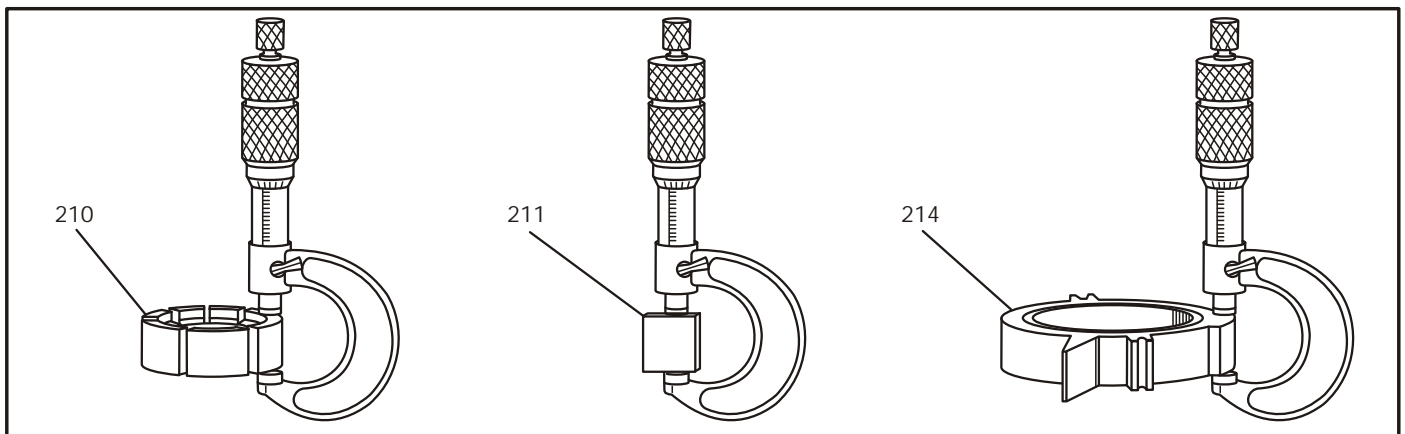

Figure 131
2. If replacement of the rotor, vanes or the slide becomes necessary, measure an undamaged section, as shown in Figure 131.